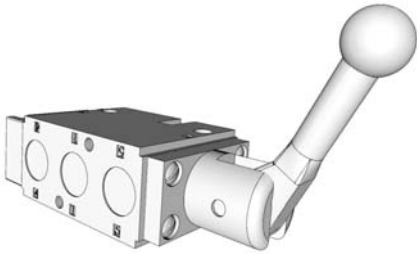

FIG. 16
- Handle Pulled: energizes the reel (FIG. 16).